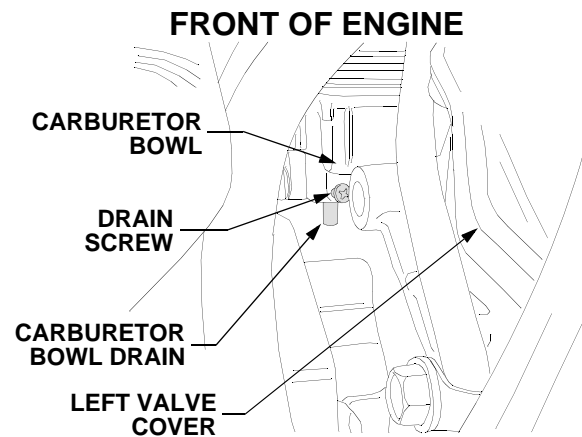

Figure 44
- Place a small container or rag beneath the carburetor bowl drain and loosen the drain screw to completely drain the fuel from the carburetor. See Figure 44.